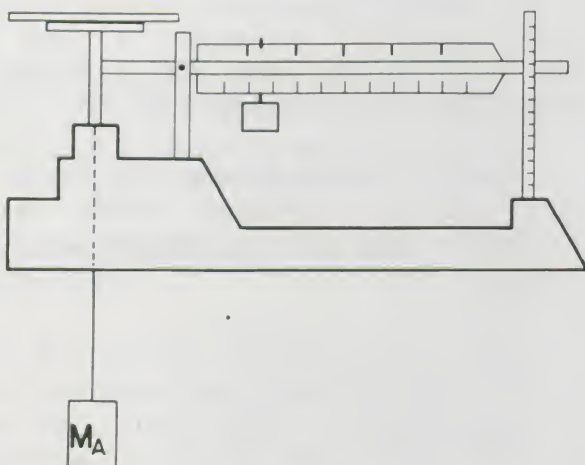

Figure 18.
Using Archimedes' Principle, a balance can be used as illustrated in Figures 18 and 19.
1. With the balance supported over the table, hang the object in question from the balance arm, as shown in Figure 18, and find its mass in air, M_A .